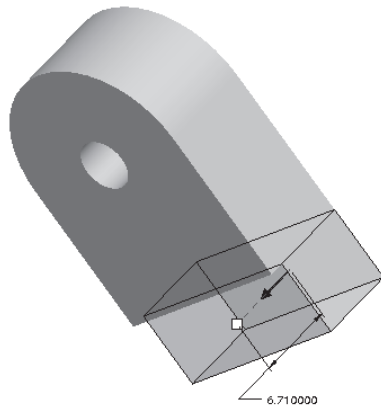

Figure 4-61 Arrow showing the direction of feature depth
4. Use the middle mouse button to orient the model, as shown in Figure 4-61. This orientation of the model gives you a better view of the sketch in the three-dimensional (3D) space. The yellow colored arrow is also displayed on the model, indicating the direction of extrusion.